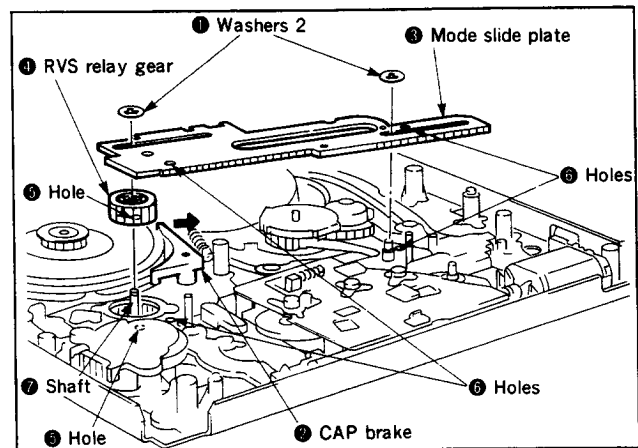

Fig. 3-38.
**3-32. MODE SLIDE PLATE, RVS RELAY GEAR (Fig. 3-38)**
- 3) Remove the two washers 2 ①.
- 4) Turn the CAP brake ② in the direction of the arrow, then pull out mode slide plate ③.
- 5) Pull out the RVS relay gear ④.
- Match up the hole ⑤ on the RVS relay gear ④ with hole ⑤ in the chassis.
- Match up the holes ⑥ on the mode slide plate ③ with holes ⑥ in the chassis.
- Apply 1/2 drop of lubricant to the shaft ⑦.